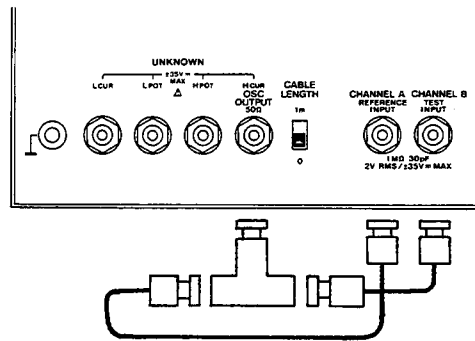

Figure 5-10. A11 Input Channel Tracking Adjustment Setup.
- a. Connect the BNC-to-BNC cables and BNC Tee Adapter as shown in Figure 5-10.